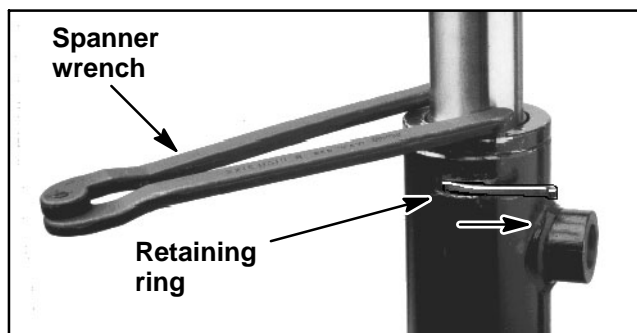

Figure 23
3. Using a spanner wrench, rotate head (item 9) clockwise until the edge of the retaining ring (item 8) appears in the tube opening. Insert a screwdriver under the beveled edge of the retaining ring to start the retaining ring through the tube opening. Rotate the head counter-clockwise to remove retaining ring (Fig. 23).